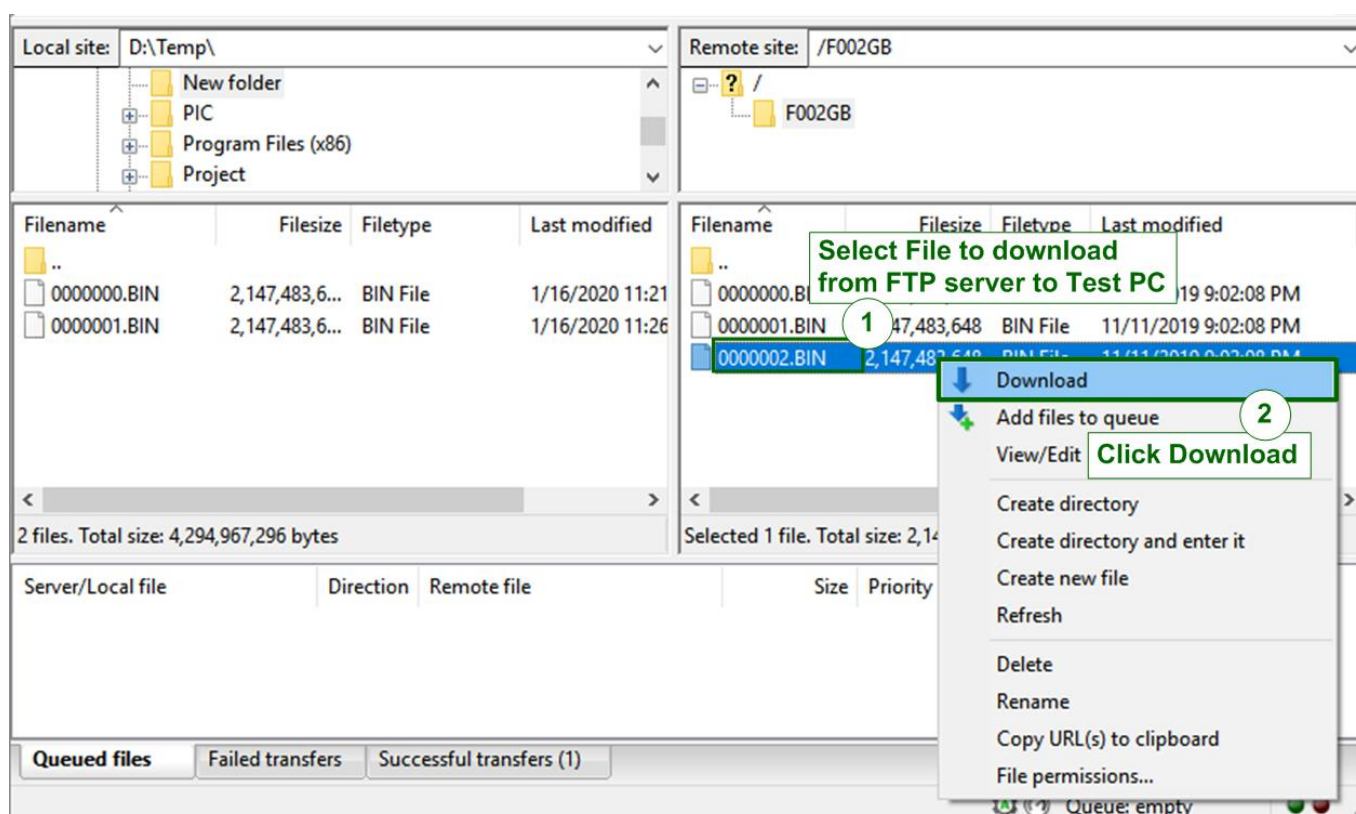

Figure 4-5 Download file
2. Right-click on the selected file and select “Download”, as shown in Figure 4-5.